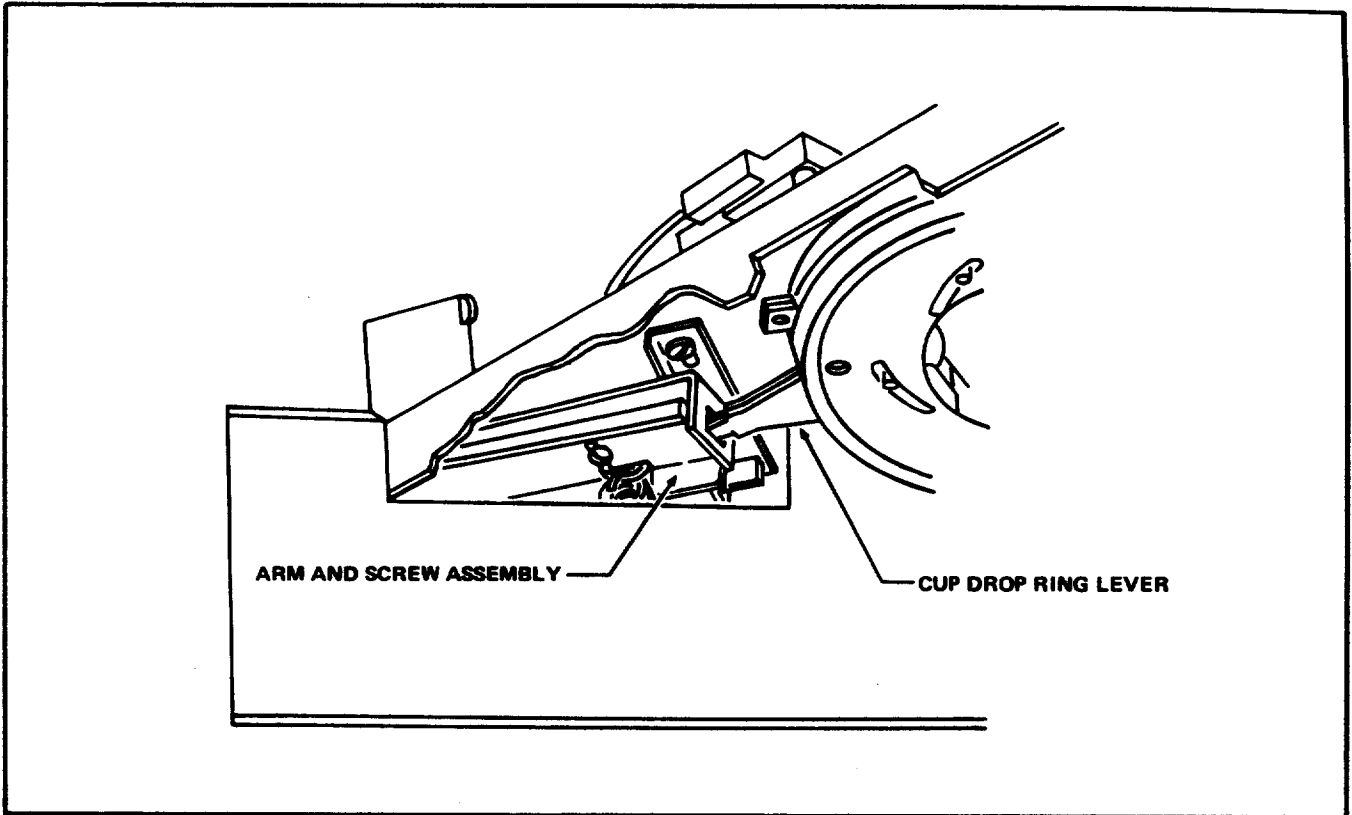

FIGURE 6
3. From underneath the Cup Dispenser Mechanism fit the Cup Drop Ring Lever in the square hole in the end of the Arm and Screw Assembly. See Figure 6.